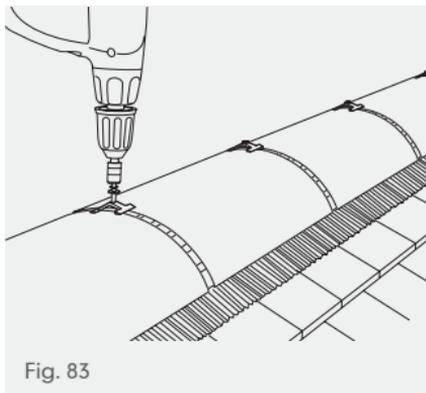

Fig. 83
- 9 Push ridge tile firmly into position and secure ridge union assembly to ridge batten by fixing screw through hole in union clamp using a pozidrive No.2 screw bit (Fig. 83).